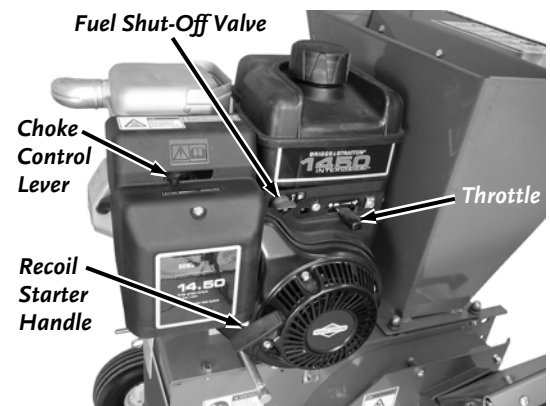

Figure 10
2. Turn the Fuel Shut-Off Valve to the OPEN position (**Figure 10**).
Move the Throttle Control Lever all the way to the left past the SLOW (Turtle) position to the “STOP” position (**Figure 10**).